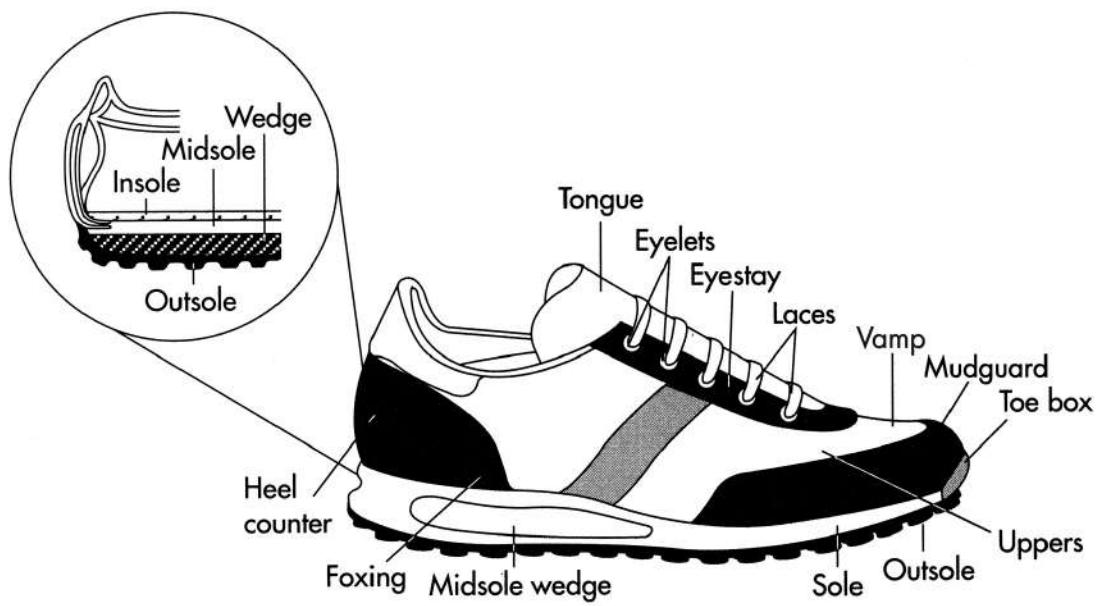

Figure 1. Parts of a running shoe.
Figure 1. Once prepared, the tomato paste or processed tomatoes, water, vinegar, and spices are placed in a premix kettle that is large enough to hold several batches of salsa. This mixture is then placed in a batch kettle for cooking along with the other ingredients, such as onions and chili peppers.
4. Due to long-distance transport of the product from manufacturing plants to stores, most salsa is not delivered fresh. Because the product must have a long shelf life, heating the salsa is necessary to prevent the growth of mold within the container before purchase. Most salsa, however, is processed only for a short time. The tomato paste or processed tomatoes, water, vinegar, and spices are placed in a premix kettle that is large enough to hold several batches of salsa (see figure 1). This mixture is then placed in a batch kettle along with the other ingredients, such as onions and chili peppers.